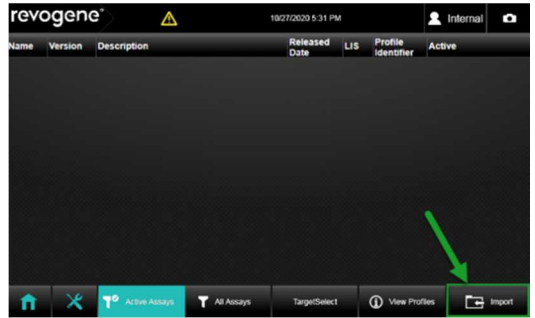

Figure 8. Assay Import Button
3. Tap on the **<Import>** tab at the bottom right corner. (Figure 8)